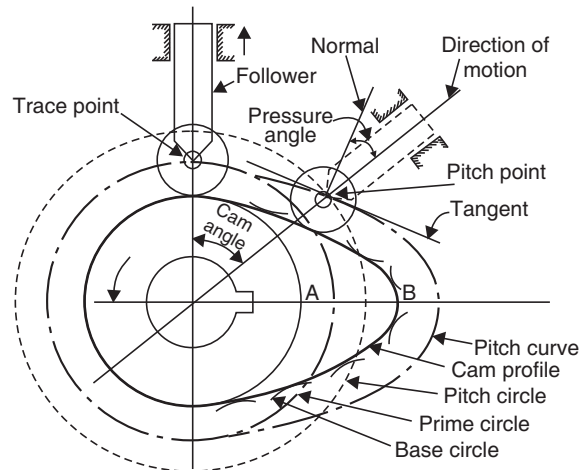

FIGURE 9.11
Definitions. Figure 9.11 shows the cam profile along with certain terms which are defined as:
10. **Lift or stroke** is the maximum travel of the follower from its lowest position to the top most position. It is equal to the distance AB as shown in Fig. 9.11.